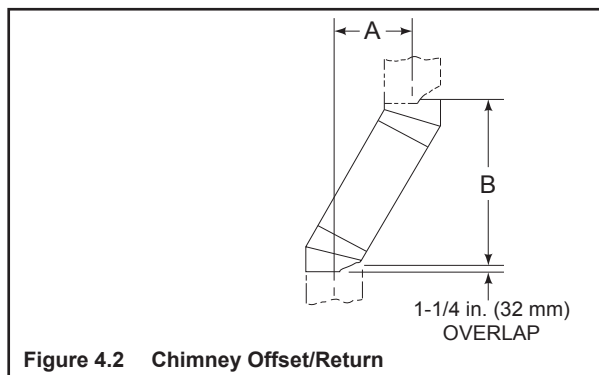

Figure 4.2 Chimney Offset/Return
- Measure the shift needed to avoid the overhead obstruction. Refer to dimension A in Figure 4.2.
Your "A" dimension from Figure 4.2 is 14-1/2 in. (368 mm). Using Table 4.3 the dimension closest to, but not less than 14-1/2 in. (368 mm) is 15-3/4 in. (400 mm) using a 30° offset/return.